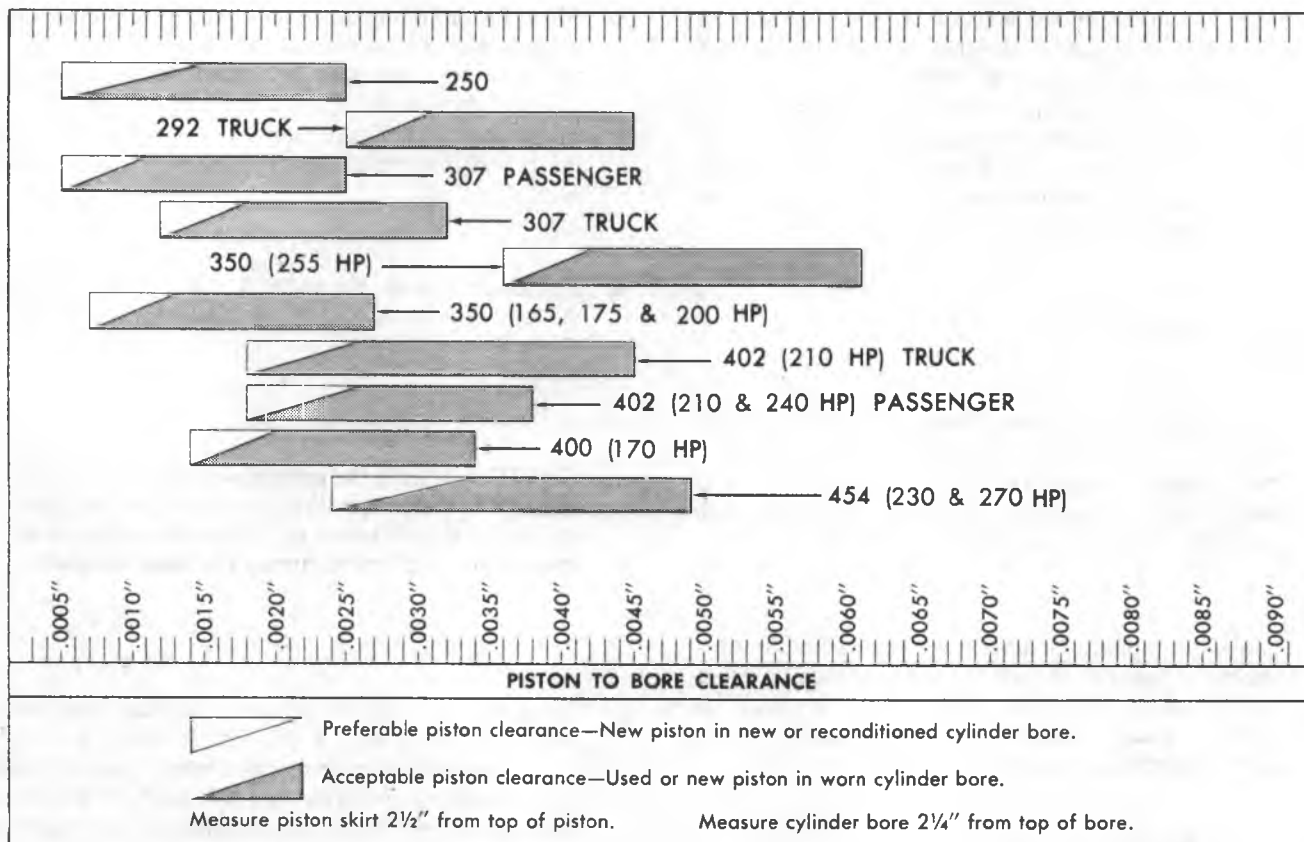

Fig. 75--Piston Selection Chart
- d. Locate piston to bore clearance on Piston Selection Chart (fig. 75) and determine if piston to bore clearance is in the acceptable range.